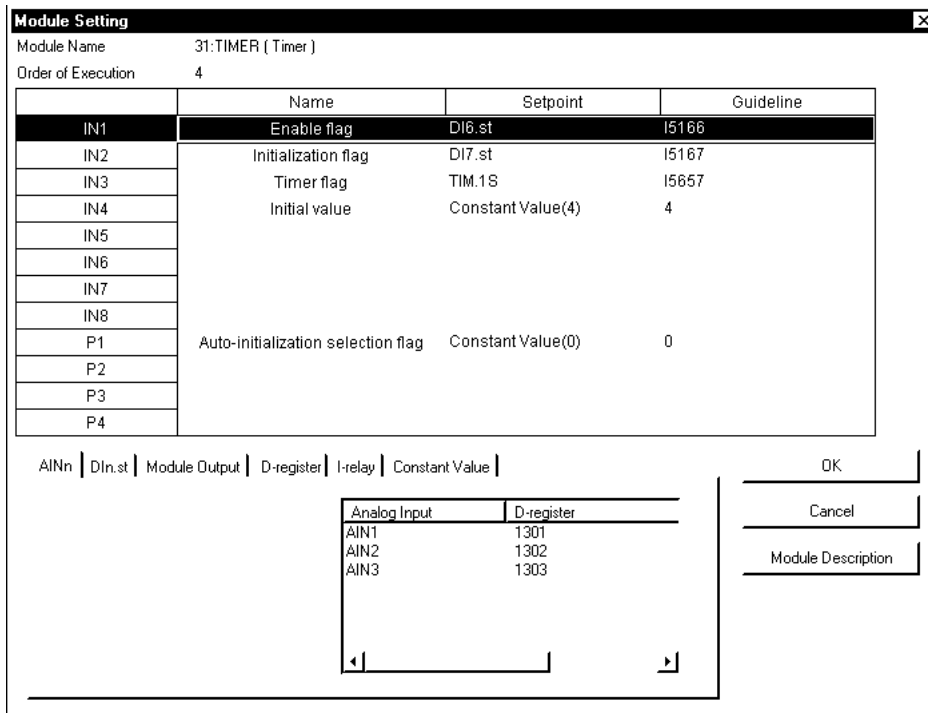

Figure 12.5.19 [Module Setting] Dialog Box
- ≠ From the tool menus, choose <Editing>, then <Connection>. The [Module Setting] dialog box (Figure 12.5.19) appears.